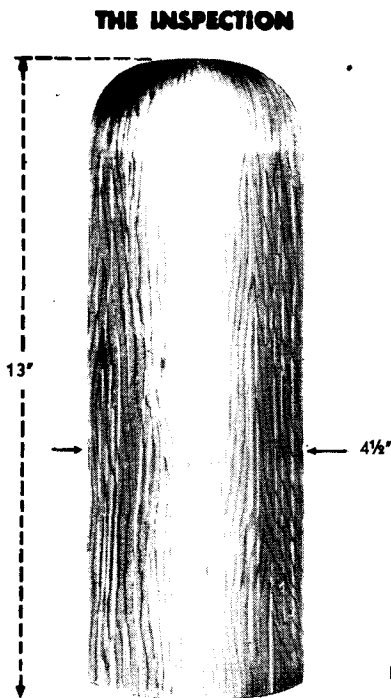

Figure 56—Cylinder Mounting Block
72. DISMANTLE THE CYLINDERS (figs. 56, 57 and 58).
b. Procedure. NOTE: A special cylinder mounting block over which the cylinder barrel will slide will prove useful as a base in dismantling the cylinder barrels. A round block approximately $4\frac{1}{2}$ inches in diameter and 13 inches long and with a rounded dome (fig. 56) will serve for this purpose.
(1) REMOVE ROCKER ASSEMBLY.